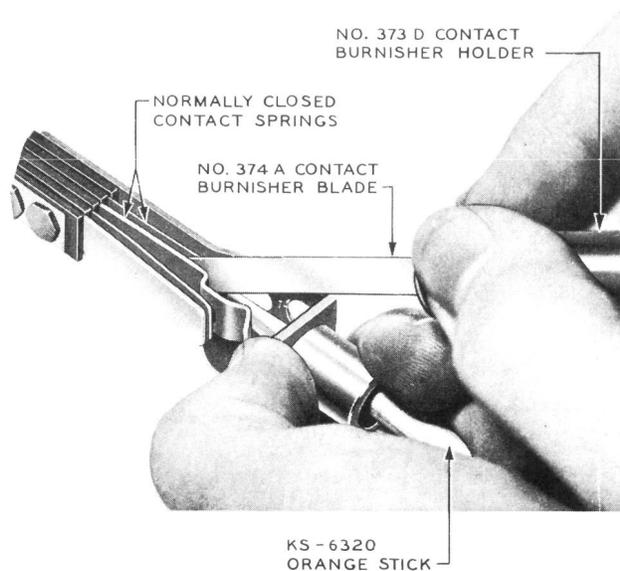

Fig. 3 – Method of Inserting Burnisher Blade Between Normally Closed Contacts of Individually Mounted Jacks
4.06 To burnish normally closed contacts on keys, operate the key and place the burnisher blade between the contacts. In the case of normally closed contacts on jacks, insert a plug or open the contacts with the KS-6320 orange stick, as shown in Fig. 3, and then place the burnisher blade between the contacts. Return the key to normal or withdraw the plug or orange stick from the jack, and then burnish the contacts as covered in 4.05.